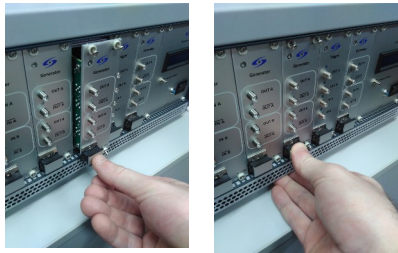

Figure 18: Inserting a module
3. Push it into the frame, only by pushing the ejection lever (see Figure 18)